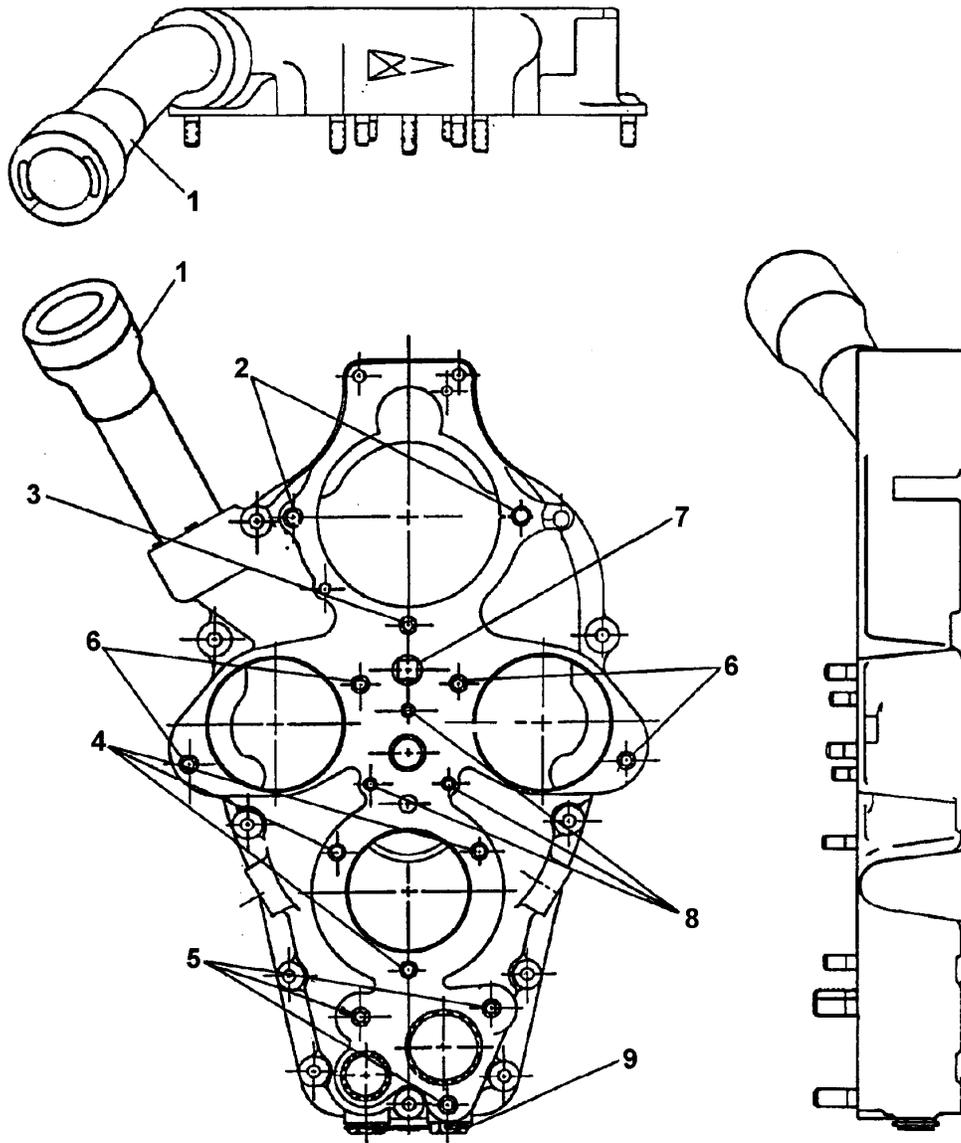

FIGURE 14-1. ACCESSORY CASE STUD SETTING HEIGHTS
- Damaged or loose studs may be replaced in accordance with instructions in Section 5-22. See Figure 14-1, "Accessory Case Stud Setting Heights," for location and height dimensions.
14-6 ACCESSORY CASE SUBASSEMBLY (See Figure 14-1.)